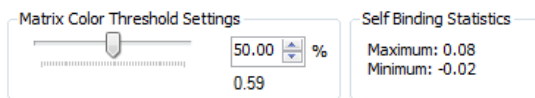
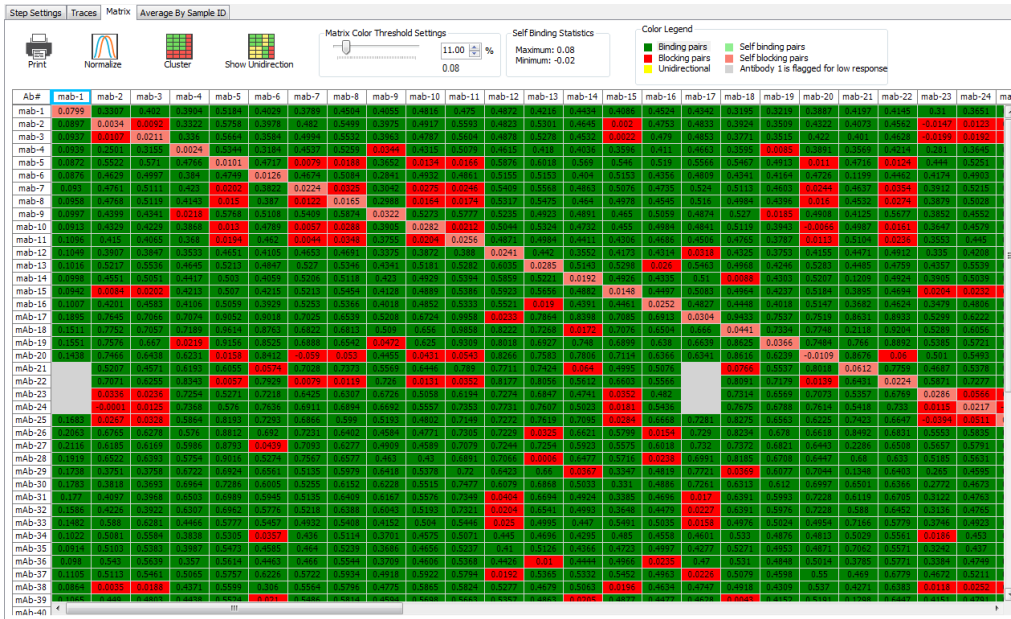

Figure 7-23: Matrix Color Threshold Settings
Figure 7-24: Matrix Color Threshold Settings Set to Self Binding Statistics Maximum
2. For all binning assay formats, the threshold is generally set as the highest self-binding signal in the panel, which is displayed as the **Maximum** value in the Self Binding Statistics box (Figure 7-23). Self-binding signal is referred to the Antibody 2 binding signal (nm shift) when the same antibody is presented as Antibody 1 and Antibody 2.
Change the threshold settings by moving the slider left or right of 50% in the Matrix Color Threshold Settings box (Figure 7-23). This changes how the matrix is colored (more green or red, Figure 7-24).